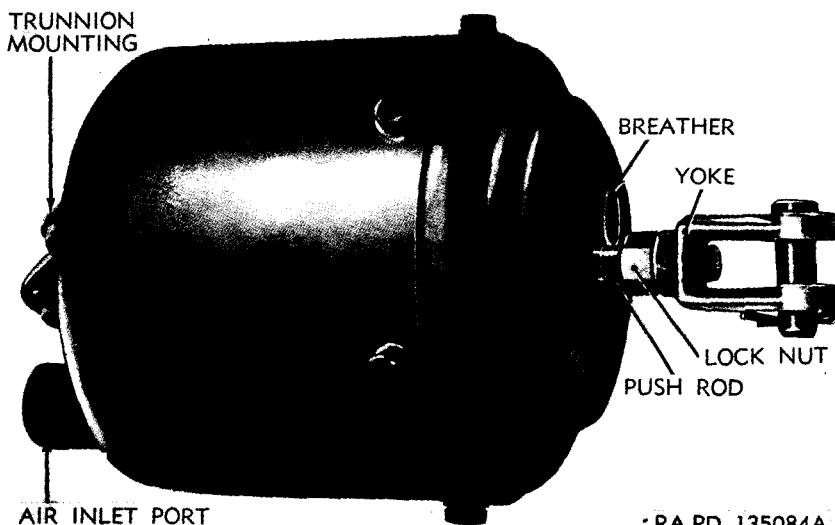
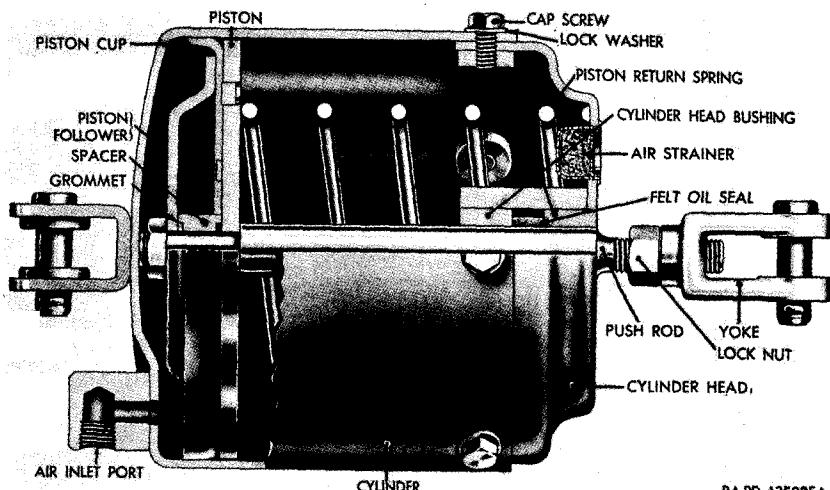
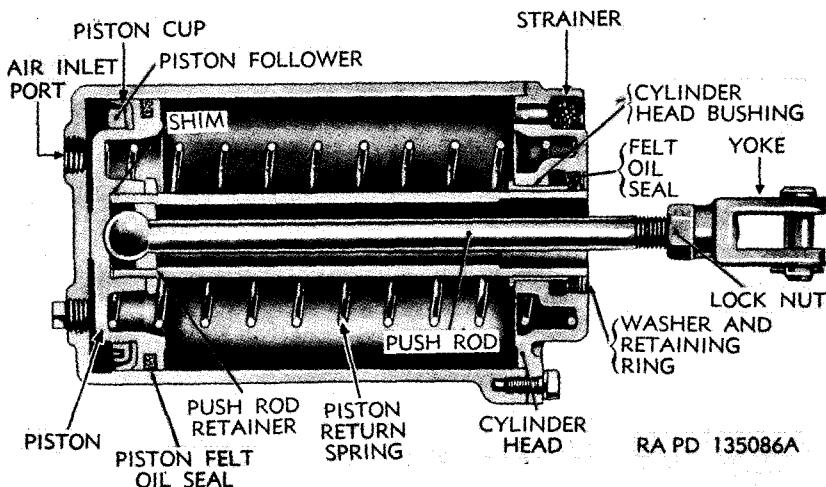

Figure 162. Typical brake cylinder—trunnion mounting.
Figure 163. Sectional view of brake cylinder—trunnion mounting.
Figure 164. Typical brake cylinder—rigid mounting.
a. *Description.* Brake cylinders serve the same basic purpose as brake chambers and rotochambers. They consist of a single acting cylinder fitted with an air piston and push rod. Brake cylinders are made with two different mountings and with several different diameters and strokes. Refer to tabulated data (par. 127). The smaller sizes (figs. 162 and 163) are usually trunnion mounted which permits lateral displacement of push rod yoke during operation. Larger sizes are usually rigidly mounted and are fitted with hollow piston guides. A ball point connection of push rod to piston permits some lateral deflection of push rod yoke (fig. 164).
a. *Trunnion Mounted Cylinder* (fig. 163). Remove cap screws and lock washers holding cylinder head in place and pull out cylinder head
b. Rigidly Mounted Cylinder (fig. 164). With the exception of push-rod-and-piston assembly, disassembly of this cylinder is same as for trunnion mounted type (*a* above). To disassemble piston, remove yoke, lock nut, cylinder head, and piston return spring from push rod. Unscrew piston follower and remove piston cup. Remove piston felt oil seal. Loosen lock nut on piston guide and unscrew guide from piston. Push rod and push rod retainer are removed from guide and shim from piston. Remove air strainer, retaining ring, felt oil seal, and washers from cylinder head.
b. Inspection and Repair. Check piston cup. If cup is worn thin or if edges are damaged, replace cup. Check fit of push rod, or piston guide in cylinder head bushing (figs. 163 and 164). These must be a sliding fit. Check condition of push rod or piston guide, and cylinder
a. Trunnion Mounted Cylinder (fig. 163).
- (1) Place piston on push rod, install piston cup and piston spacer. Cup lip must face away from piston. Place new grommet in spacer recess, install piston follower and nut. Tighten nut securely. Place piston return spring over push rod.
- (2) Install air strainer in cylinder head. Fill grease groove in cylinder head bushing with automotive and artillery grease (GAA), and install felt oil seal in groove. Also use this grease to coat inside of cylinder and piston cup.
- (3) Place cylinder head on push rod and install lock nut and yoke. Carefully insert piston-and-push-rod assembly into cylinder. Guard against damage to piston cup. Secure cylinder head with cap screws and lock washers.
b. Rigidly Mounted Cylinder (fig. 164).
- (1) Place push rod retainer over rod with spherical recess seated against ball. Insert push rod into piston guide and seat retainer against shoulder. Place lock nut on piston guide and run on to end of threads. Fill cavity around push rod ball with automotive and artillery grease (GAA), place shim in